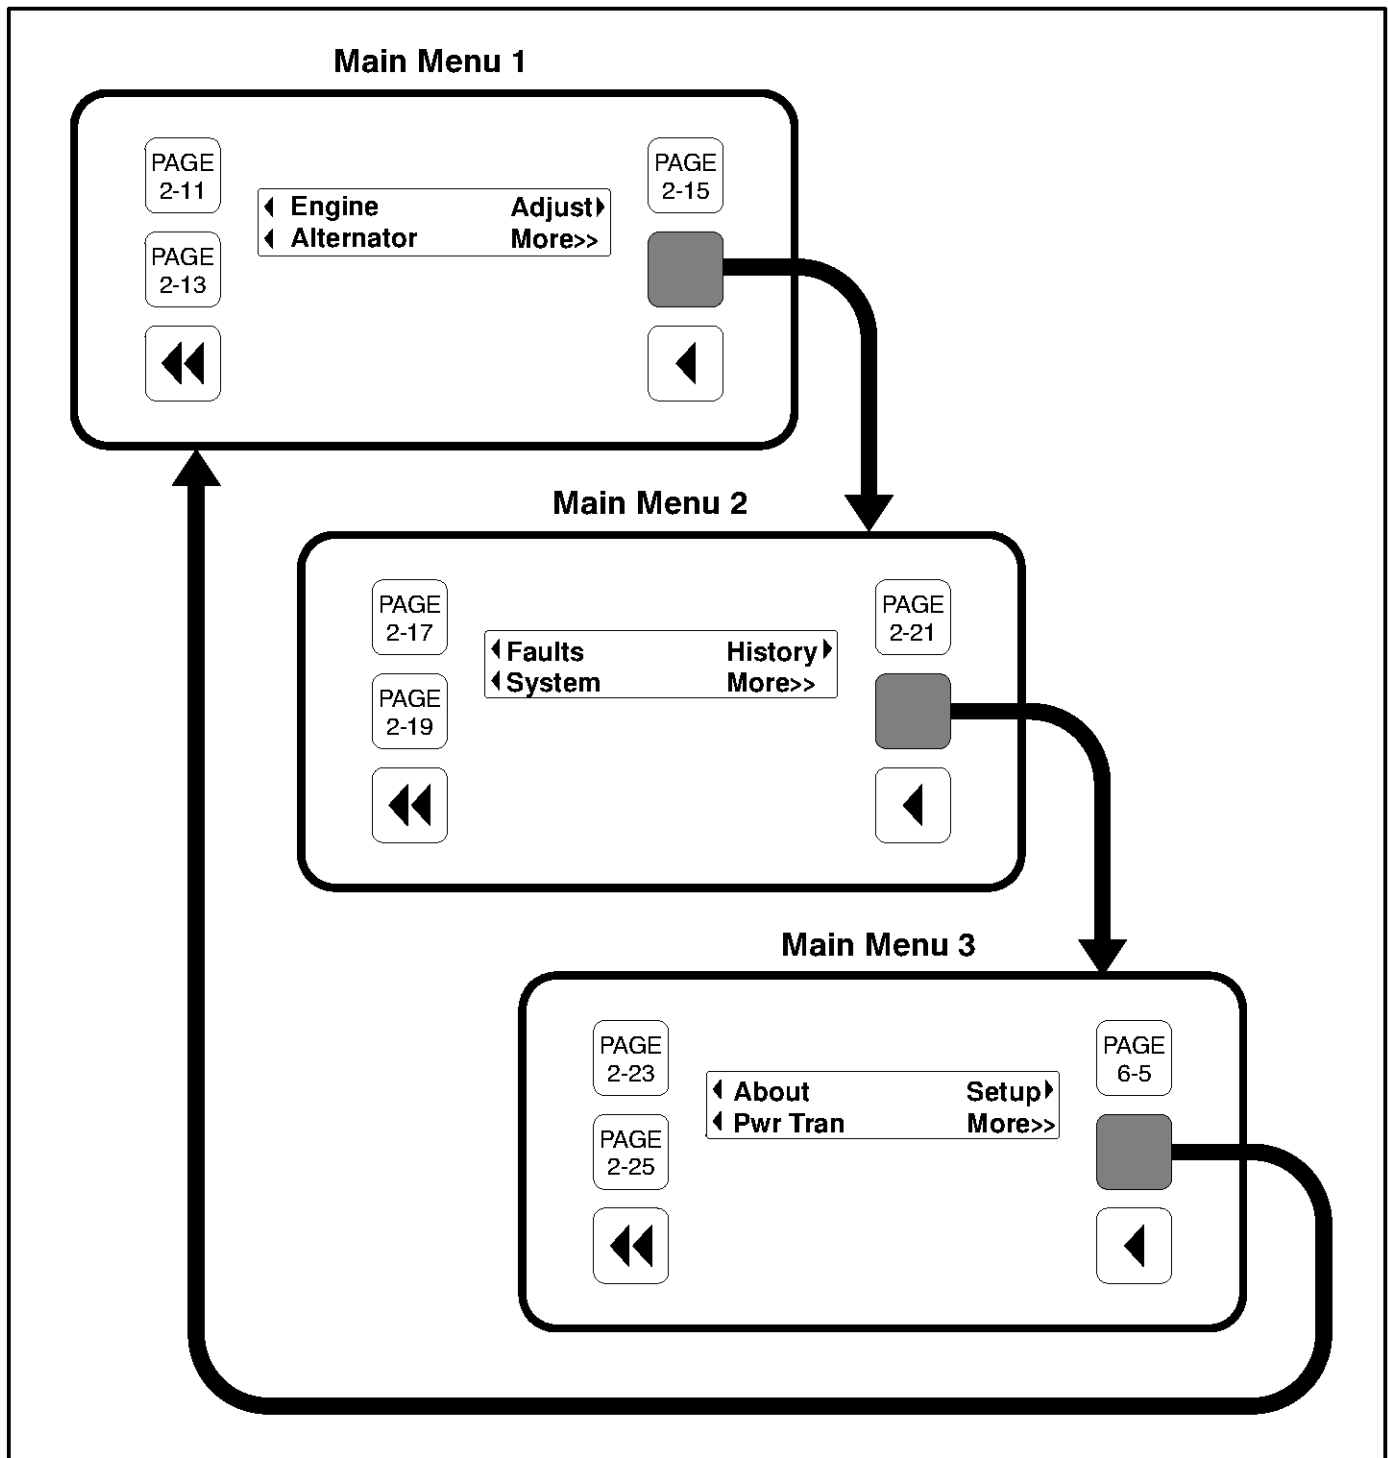
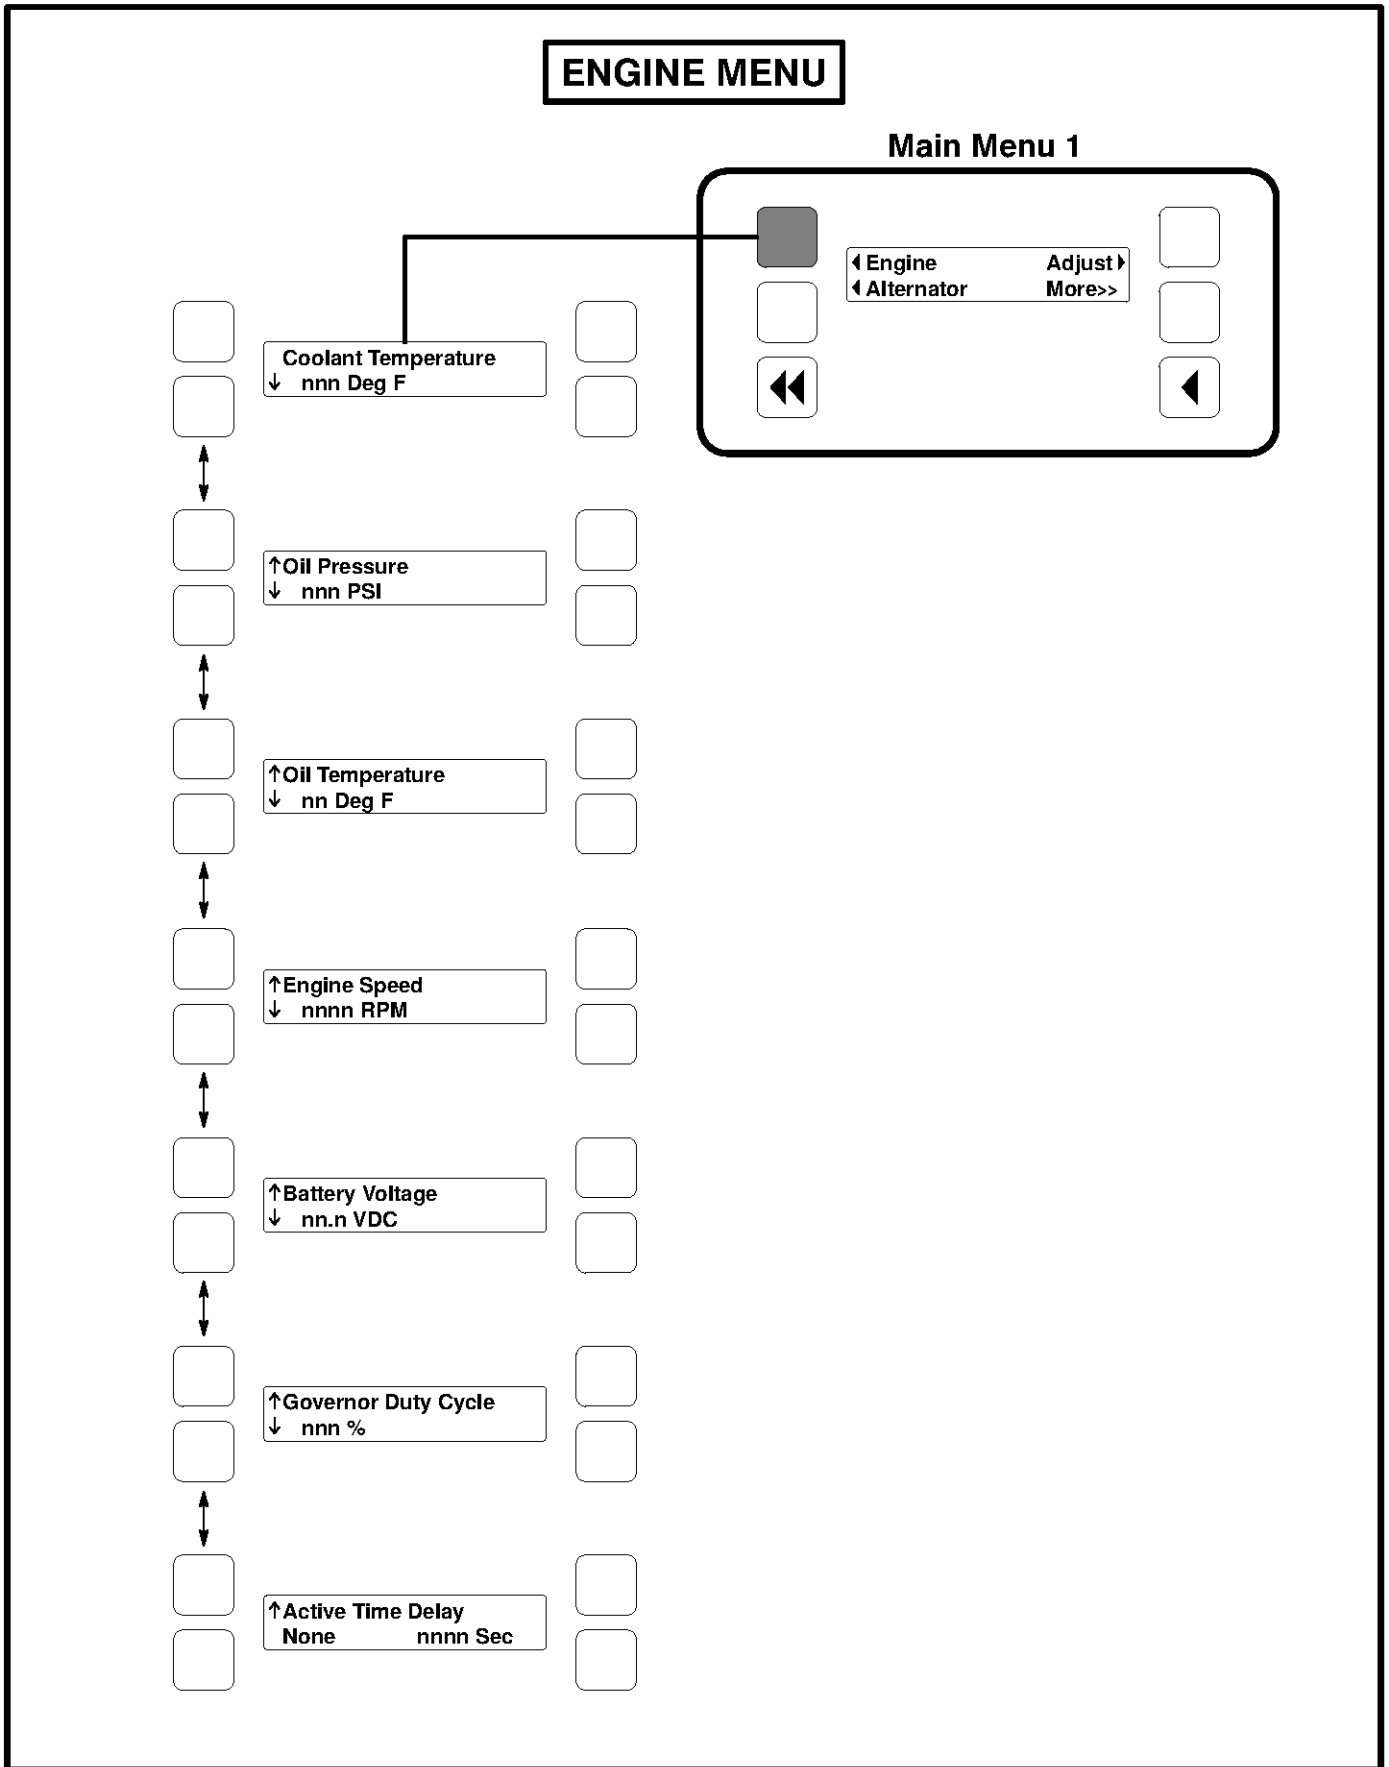

FIGURE 2-3. MAIN MENUS
FIGURE 2-5. ENGINE MENU
- In the digital display for main menus (Figure 2-3), the ◀ and ▶ symbols indicate that pressing the adjacent button causes the operating program to go to the selected submenu (e.g., Engine Menu in Figure 2-5).
- In the digital display, the More>> symbol indicates that pressing the adjacent button causes the operating program to go to the next main menu, as shown in Figure 2-3.
Home Button: Pressing this button causes the operating system to show Main Menu 1 (Figure 2-3) in the digital display.
Figure 2-3 shows the three major main menus available to the user. Figure 2-3 also includes references to pages in this section where you can find additional information on submenus. When viewing a submenu, you can press the previous main menu button at any time to view its main menu.
Figure 2-5 shows a block representation of the Engine menu. If you press the button next to the word "Engine" in the display, the first Engine submenu is displayed.